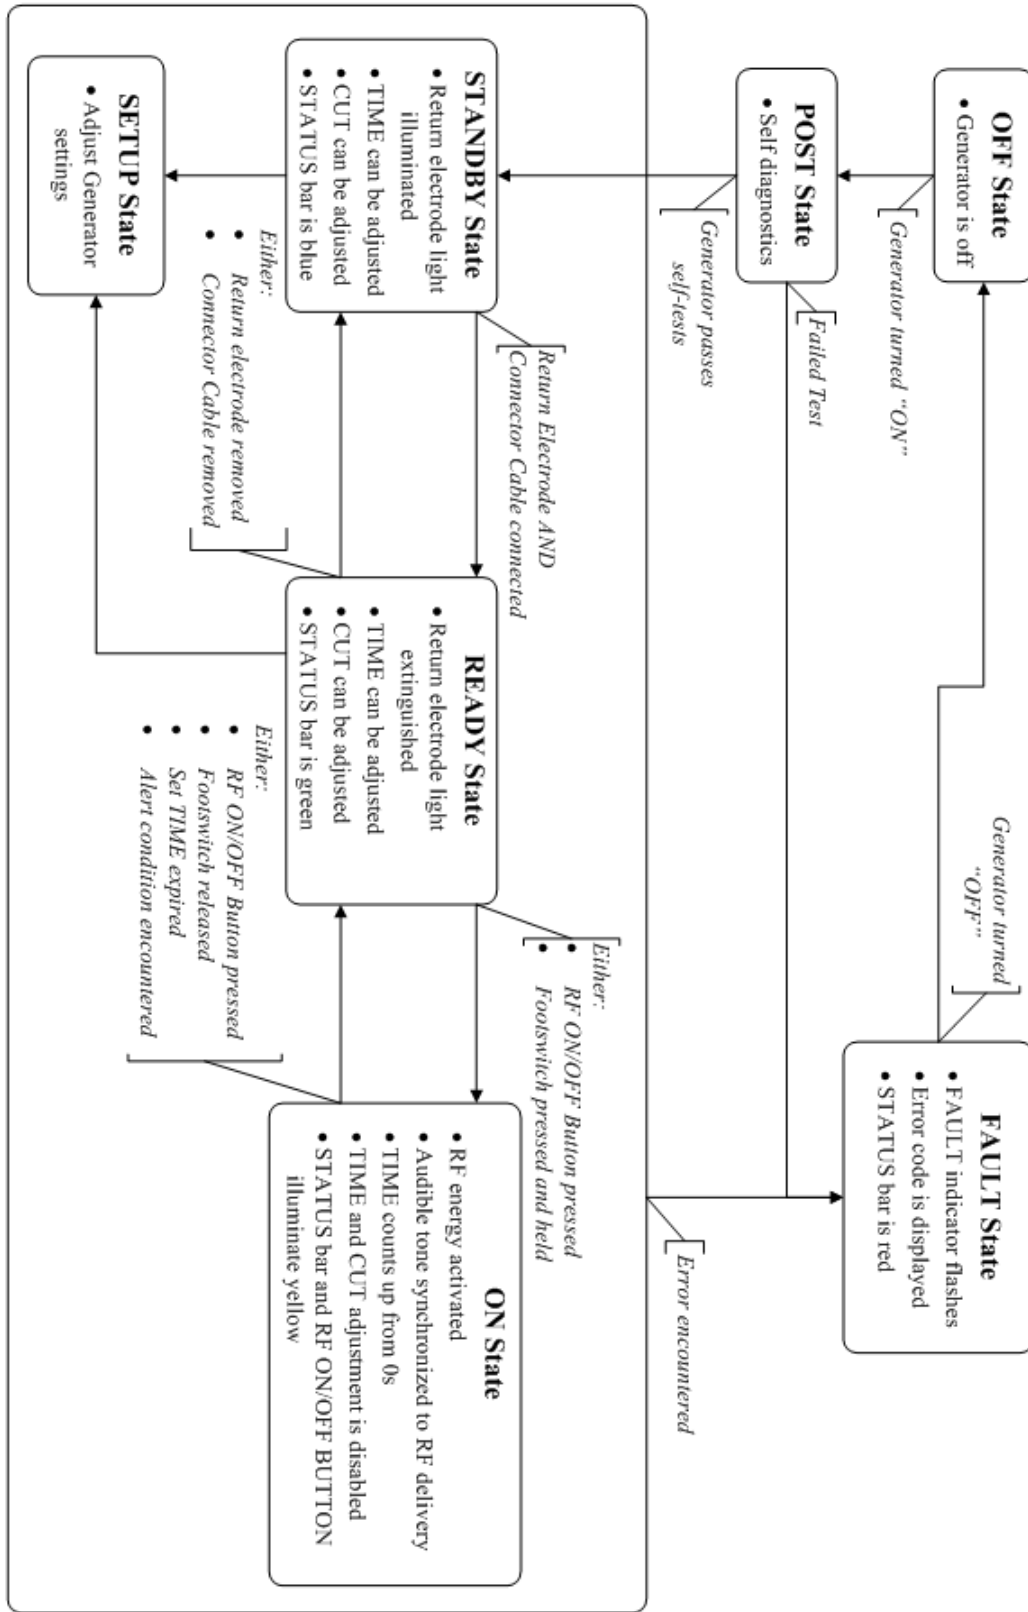

Figure 5-3 – Generator States Flow Chart
- (5) **STATE Status Bar:** This window displays the current STATE of the Generator. The various Generator states and how they are related are shown in Figure 5-3 – Generator States Flow Chart.
- (6) **TIME Setting Window:** This window displays the desired RF output duration (in seconds). This window also displays the functions for the soft keys used to adjust the TIME setting.
- (7) **Left column soft keys:** These keys allow for parameter adjustment. Their function is displayed on the screen to the right of the soft key, when applicable. For example, the up ▲ and down ▼ arrows are displayed when the keys are to be used to increase or decrease a setting.
- (8) **CUT Setting Window:** This window displays the desired CUT mode. CUT modes are BMC RF Device specific and described in Section 0. The BMC RF Device’s instructions-for-use should be consulted for appropriate settings to use. This window also displays the function for the soft keys used to adjust the CUT setting.
- (9) **Right column soft keys:** These keys allow for parameter adjustment. Their function is displayed on the screen to the left of the soft key, when applicable. For example, the up ▲ and down ▼ arrows are displayed when the keys are to be used to increase or decrease a setting.
- (10) **Bottom row soft keys:** These soft keys have various functions. Each key’s function is displayed on the screen above the soft key when applicable.
- (11) **Message Window:** This window displays functional and informational messages when required.
- (12) **Return Electrode Connection:** This patient isolated connection is for attachment of an approved dispersive (return) electrode. **Only use dispersive electrodes that meet or exceed IEC 60601-2-2 requirements.** Either non-monitoring (single foil) or monitoring (dual foil) electrodes can be used.
- (13) **Connector Cable Connection:** This patient isolated connection is for the attachment of the RFP-100A connector cable. The user shall refer to the BMC RF Device instructions-for-use to select the proper connector cable model.
- (14) **RF ON/OFF Button and Indicator:** Upon press and release, this button initiates RF energy delivery when the Generator is in the READY state. This button terminates RF energy delivery when the Generator is in the ON state. The indicator in the button illuminates yellow when the Generator is in the ON state.
- (15) **USB Port (side):** When a USB memory stick is connected, treatment data from the last twenty (20) RF energy deliveries is downloaded. When left connected, data from subsequent RF deliveries is downloaded on a per treatment basis.